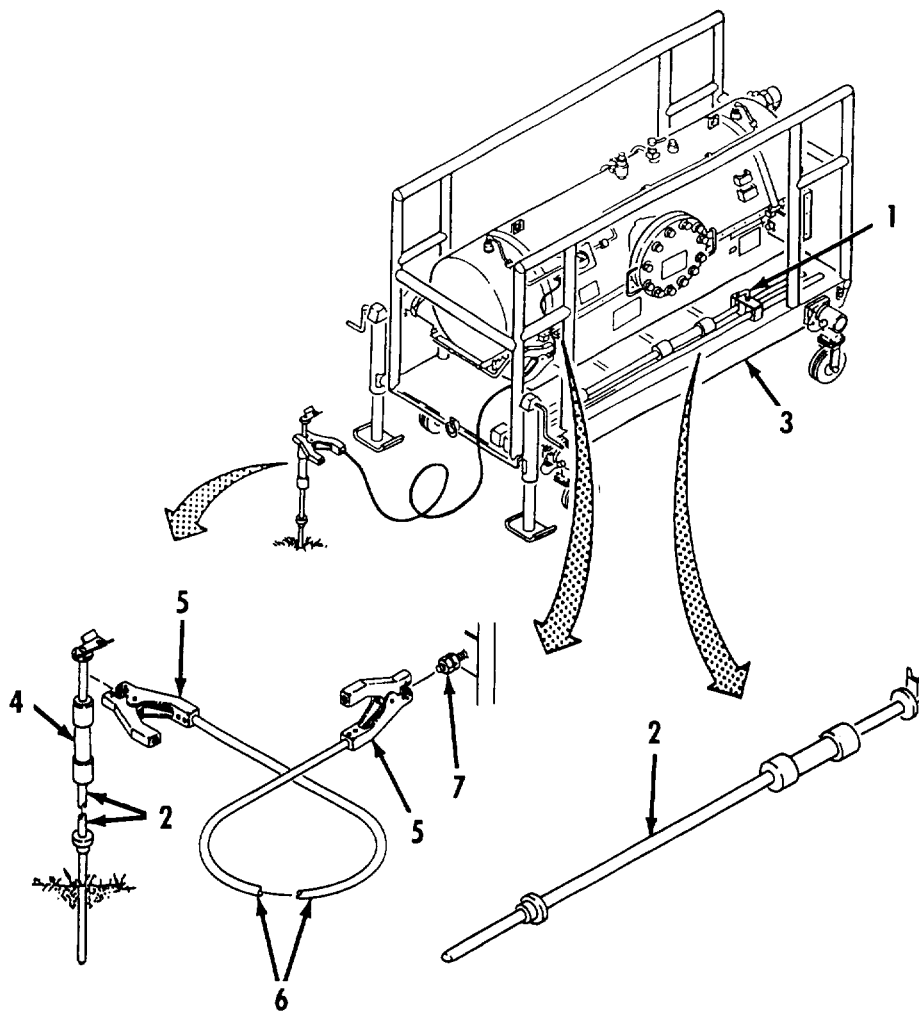

Figure 2-43. 200 GPM Filter-Separator Ground Rod Removal.
- b. 200 GPM Filter-Separator Ground Rod Removal. Refer to figure 2-43.